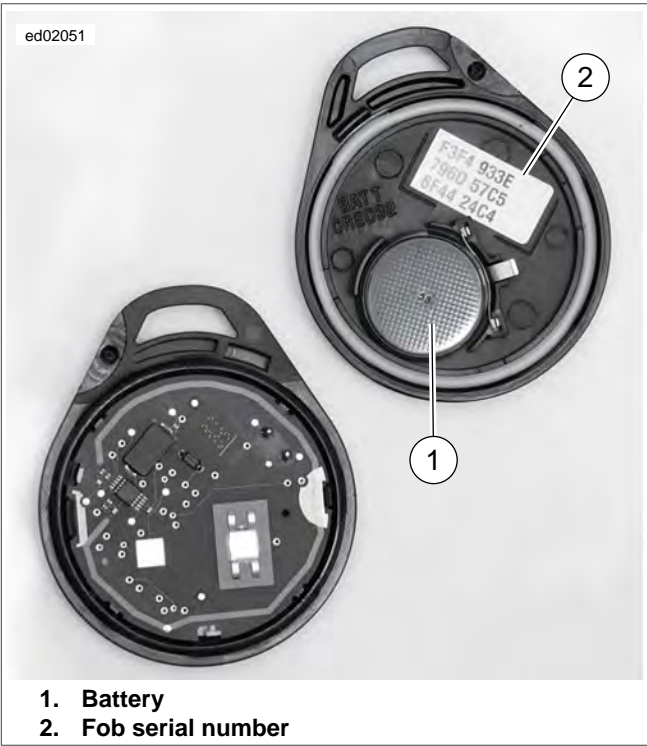

Figure 5-21. Open Fob: HFSM
- See Figure 5-21. Verify fob battery voltage is at least 2.9V.